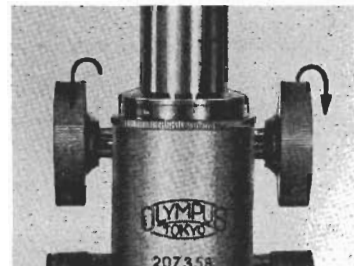

Fig. 1
1. Pull out the styro-foam packing. (Fig. 1)
While the coarse adjustment motion is normally stiff and heavy, it is freely adjustable for either heavy or light movement depending on the observer's preference. To adjust the tension, hold the two coarse adjustment knobs with both hands and rotate them in the opposite directions at the same time. (Fig. 1)